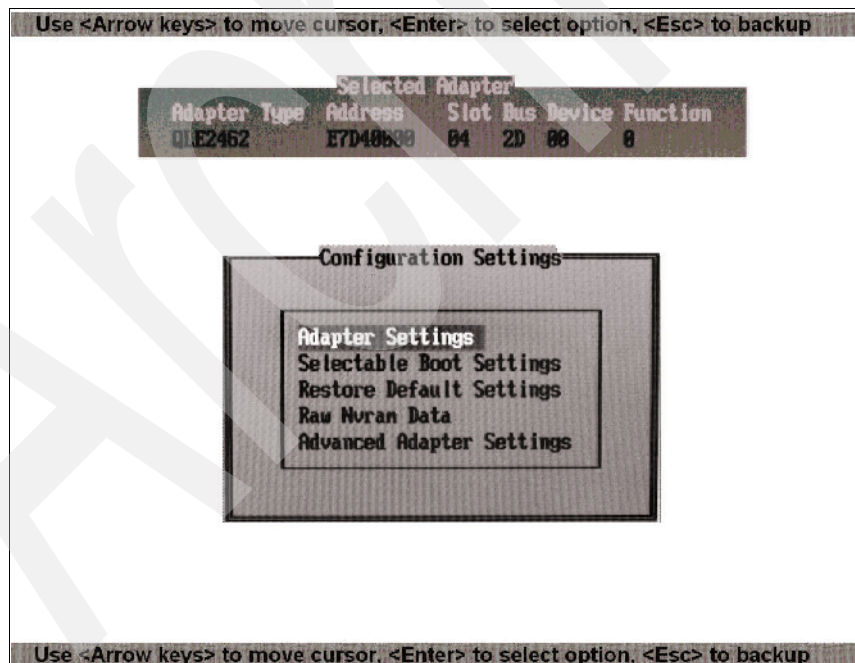

Figure 26-4 Configuration Settings menu
3. In the Configuration Settings menu, shown in Figure 26-4, select **Adapter Settings**.